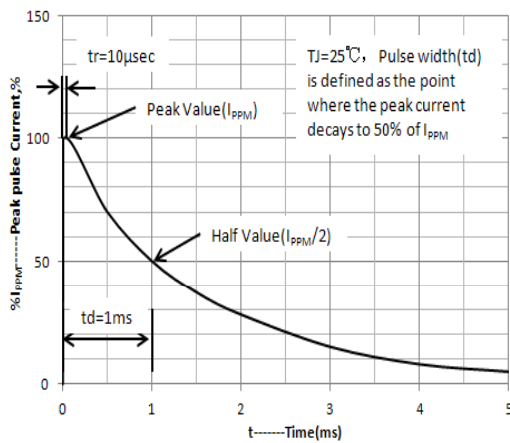
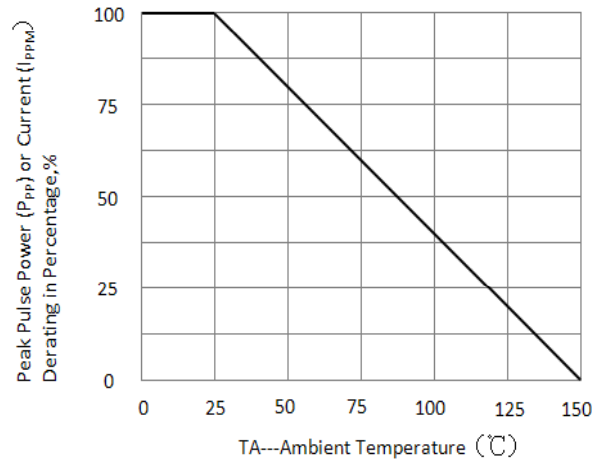

Figure 3. Pulse Waveform
Figure 4. Peak Pulse Power Derating Curve
- 1) Non-repetitive current,per fig.3 and derated above TA=25°C per fig.4.